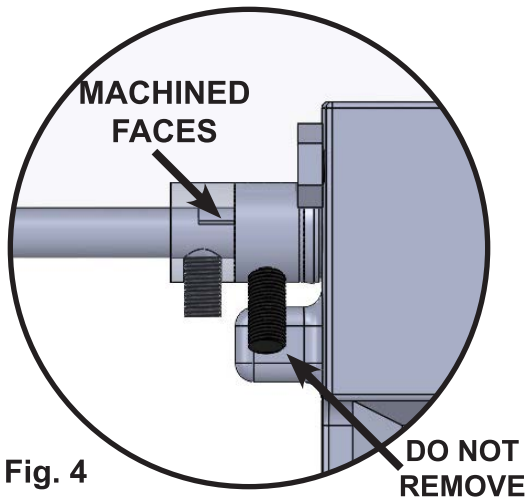

Fig. 4
5. Rotate the rod until the thermostat is in the fully open position as shown in Fig. 4. Secure the thermostat knob onto the thermostat rod. It should be pointing down in the 6 o'clock position when the thermostat is fully open.